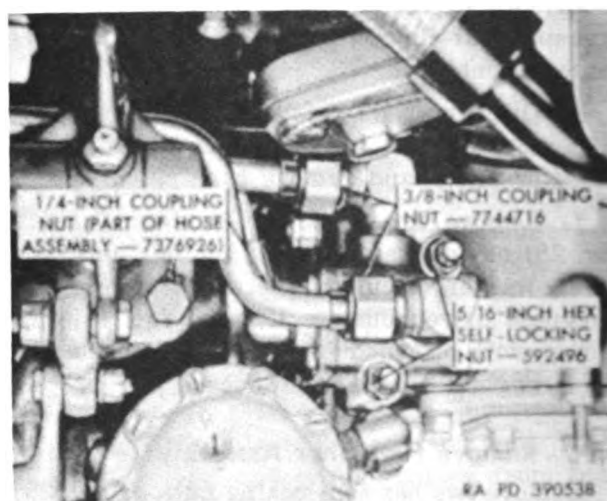

Figure 34. Governor oil pressure regulating valve disconnect points (model AOSI-895-5M engines only).
53. Remove Governor Oil Pressure Regulating Valve Assembly (Model AOSI-895-5M Engine Serial Numbers 2067 Through 8487 Only) (fig. 34)